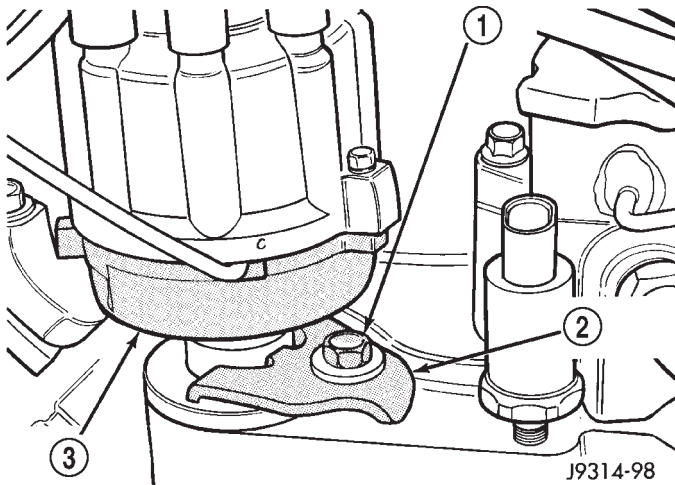

Fig. 33 Distributor Holddown Clamp—3.9/5.2/5.9L Engines
(11) Remove distributor holddown clamp bolt and clamp (Fig. 33). Remove distributor from vehicle.
- (7) Tighten clamp holddown bolt (Fig. 33) to 22.5 N·m (200 in. lbs.) torque.
- (8) Connect camshaft position sensor wiring harness to main engine harness.
- (9) Install distributor cap. Tighten mounting screws.
- (10) Refer to the following, Checking Distributor Position.